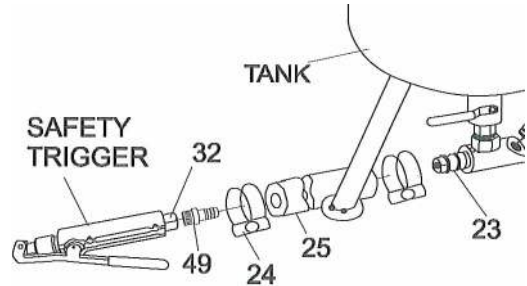

Figure 1
1. Follow the diagram at right to install the various components (Figure 1).
2. Slide the two hose clamps (24) over each end of the Abrasive Hose (25) surface.
3. Press one end of the hose, over the nipple on the Abrasive outlet pipe (23). And the other end over the Abrasive Safety Trigger Hose Adapter (49).